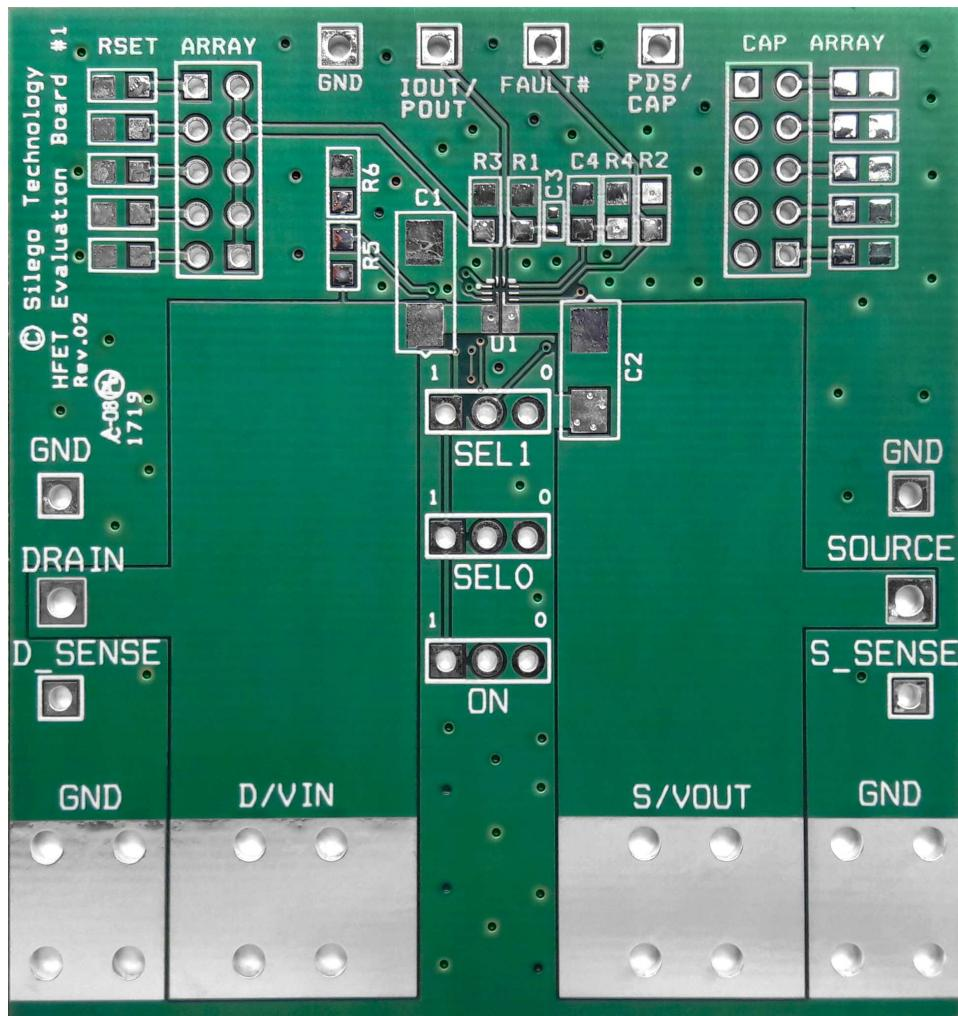

Figure 19. SLG59H1127V Evaluation Board
1. Since the VIN and VOUT pins dissipate most of the heat generated during high-load current operation, it is highly recommended to make power traces as short, direct, and wide as possible. A good practice is to make power traces with absolute minimum widths of 15 mils (0.381 mm) per Ampere. A representative layout, shown in Figure 19, illustrates proper techniques for heat to transfer as efficiently as possible out of the device;
A High Voltage GreenFET Evaluation Board for SLG59H1127V is designed according to the statements above and is illustrated on Figure 19. Please note that evaluation board has D_Sense and S_Sense pads. They cannot carry high currents and dedicated only for RDS_{ON} evaluation.